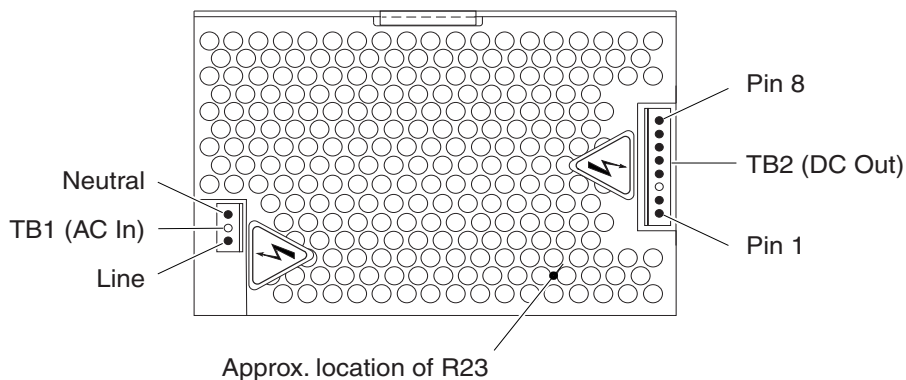

Figure 2-3. A4 DC Power Supply Test-Point Locations
- 4 Connect the negative lead of a voltmeter to the chassis and measure each of the voltages listed in Table 2-2 on Power Supply connectors TB1 and TB2 (see Figure 2-3).